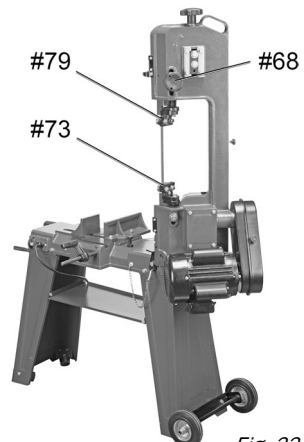

Fig. 22
1. The Upper Blade Guide Bracket (#79) is adjustable by loosening the Blade Guide Adjusting Knob (#68) and sliding the Bracket up or down to accommodate the depth of the workpiece (Fig. 22).